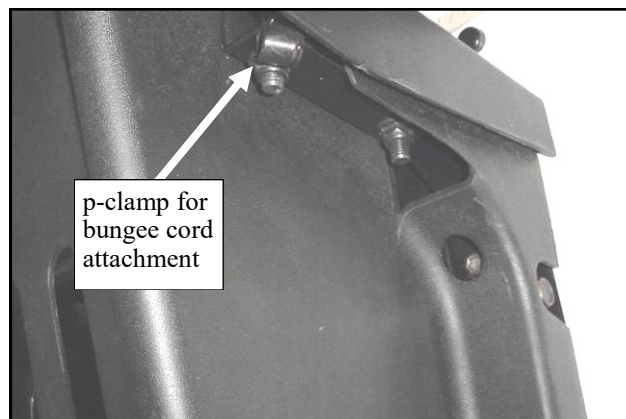

Fig. 10.1 (view from rear of passenger's side)
10.1 Per figures 10.1 and 10.2, install one of the two p-clamps to the rearmost bolt behind the seat as shown. Orient the p-clamp so the flat section is upward. Temporarily remove the nut, place the p-clamp on to the bolt, re-install and tighten the nut. Repeat for driver's side.